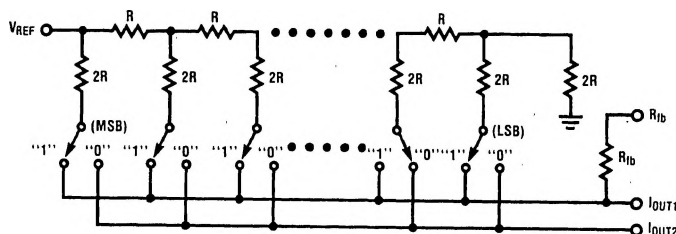

FIGURE 6
The analog circuitry, *Figure 6*, consists of a silicon-chromium (SiCr or Si-chrome) thin film R-2R ladder which is deposited on the surface oxide of the monolithic chip. As a result, there are no parasitic diode problems with the ladder (as there may be with diffused resistors) so the reference voltage,  $V_{REF}$ , can range -10V to +10V even if  $V_{CC}$  for the device is 5VDC.
*Figure 6*. The MOS switches operate in the current mode with a small voltage drop across them and can therefore switch currents of either polarity. This is the basis for the 4-quadrant multiplying feature of this DAC.